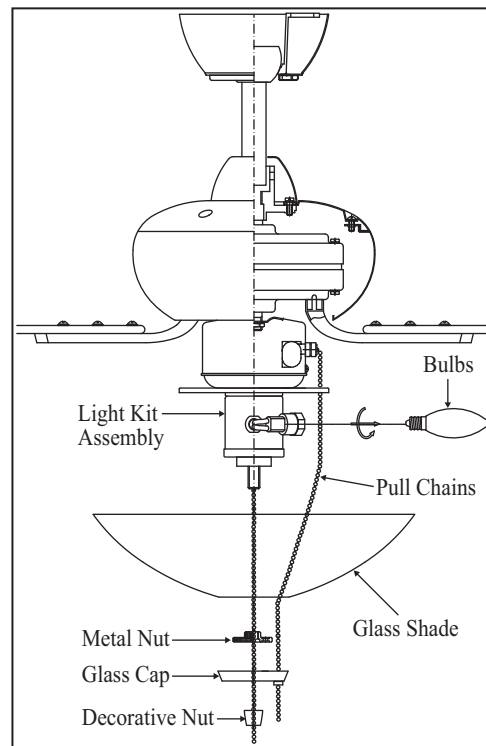

Figure 15
4. Remove the metal nut, glass cap and decorative nut from the light kit stem. Raise the glass shade up against the light kit, Place the metal nut on the top over the stem and turn it clockwise until it locks up against the glass shade. Do not overtighten. (Fig. 15)
snug. Do not overtighten. (Fig. 15)